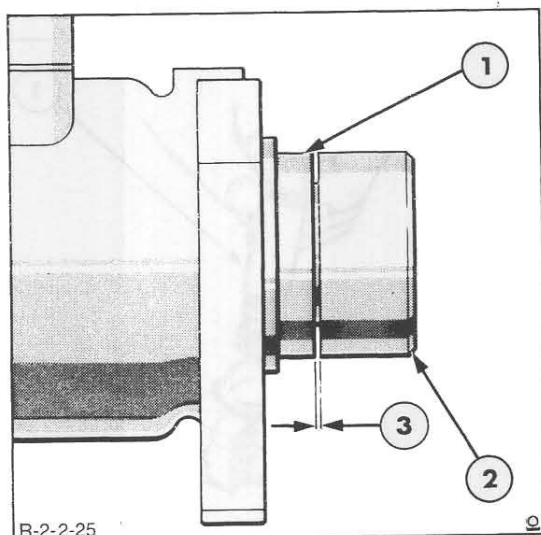

Figure 25
4. Check the drive shaft end float. This should not exceed 0.010 in. (0.25 mm) measured between the rear face of the hub and the pump body as indicated in Figure 25. If this dimension is exceeded, the weight retainer or pump body must be renewed and the end float re-checked.